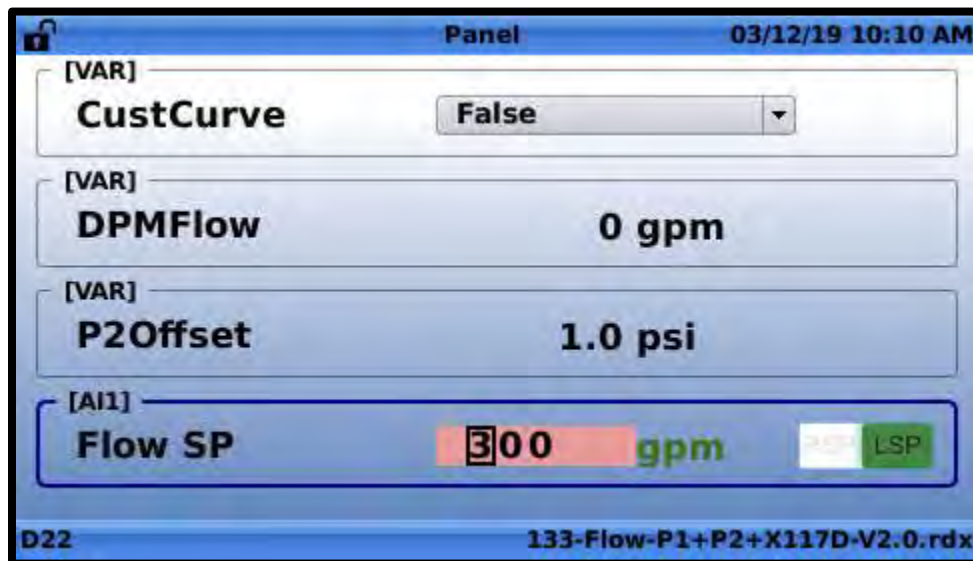

Figure 8.7
5. Use the left and right navigation buttons to highlight the numerical value and press “OK”. Enter the desired numerical value as shown in **FIGURE 8.7**.